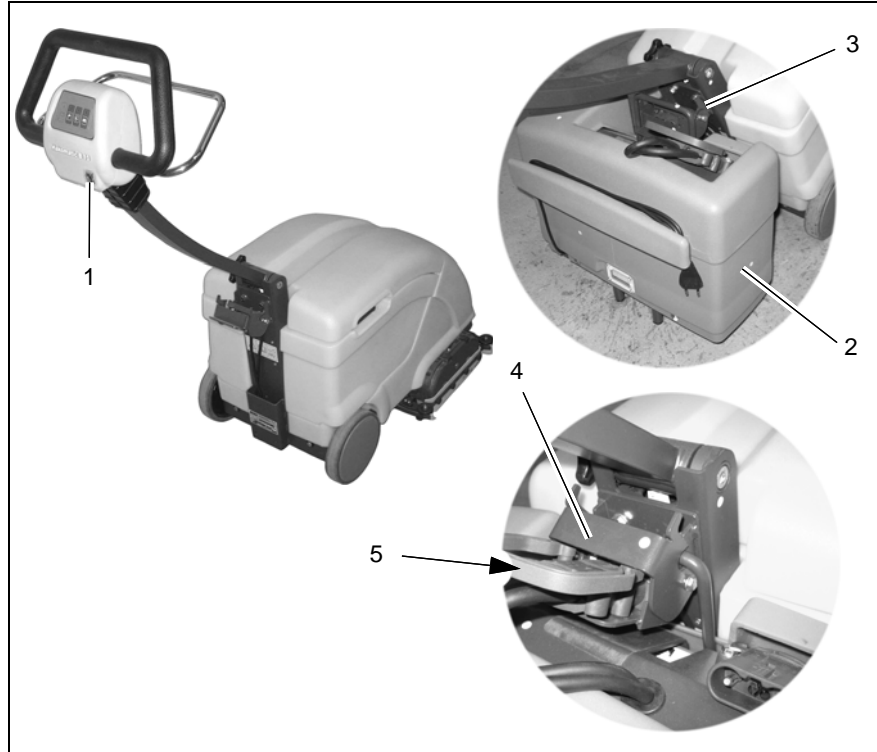

Fig.14
We recommend charging the battery immediately if the battery indicator (Fig. 14/6) on the Port A Scrub lights up red during operation. The batteries are charged using the integrated battery charger.
1. Switch off the Port A Scrub using the main switch (Fig. 14/1).
2. Pull the Port A Scrub against the Power Pack (Fig. 14/2).
3. Tip the machine to the rear until the Power Pack can be installed on the holder (Fig. 14/3).
5. Slide the safety catch (Fig. 14/4) upwards. Plug the battery plug (Fig. 14/5) in the socket on the Port A Scrub.